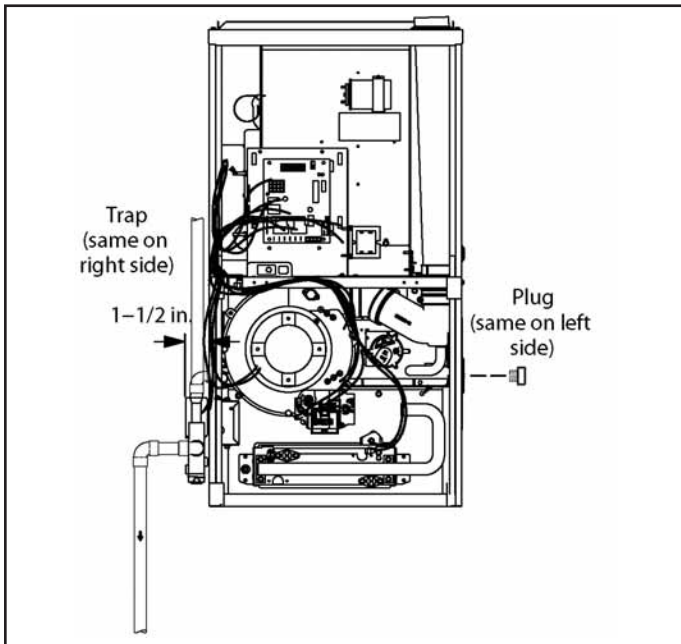
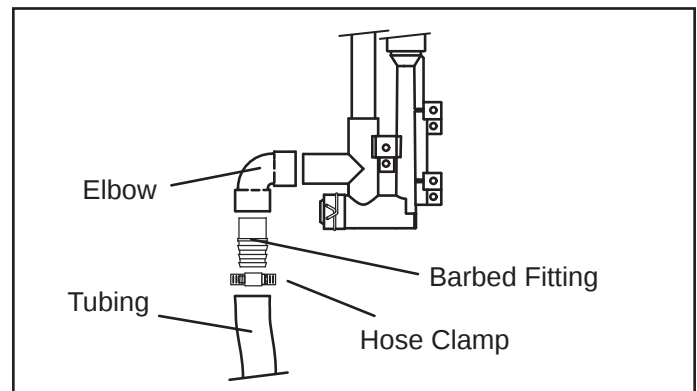
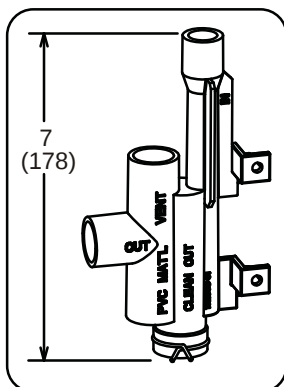

Figure 36. Condensate Trap and Plug Locations
Figure 35. Field-Provided Drain Components
Figure 42. Trap / Drain Assembly Using 1/2" PVC or 3/4" PVC
This unit is designed for either right- or left-side exit of condensate piping. Refer to Figure 35 and Figure 36 for condensate trap locations. Figure 41 and Figure 42 show trap assembly using 1/2" PVC or 3/4" PVC.
1. Use a large flat head screw driver or a 1/2" drive socket extension and remove plug (Figure 35) from the cold end header box at the appropriate location on the side of the unit. Install provided 3/4 NPT street elbow fitting into cold end header box. Use Teflon tape or appropriate pipe dope.
2. Install the cap over the clean out opening at the base of the trap. Secure with clamp. See Figure 41 and Figure 42.
3. Install drain trap using appropriate PVC fittings, glue all joints. Glue the provided drain trap as shown in Figure 41 and Figure 42. Route the condensate line to an open drain. Condensate line must maintain a 1/4" downward slope from the furnace to the drain.